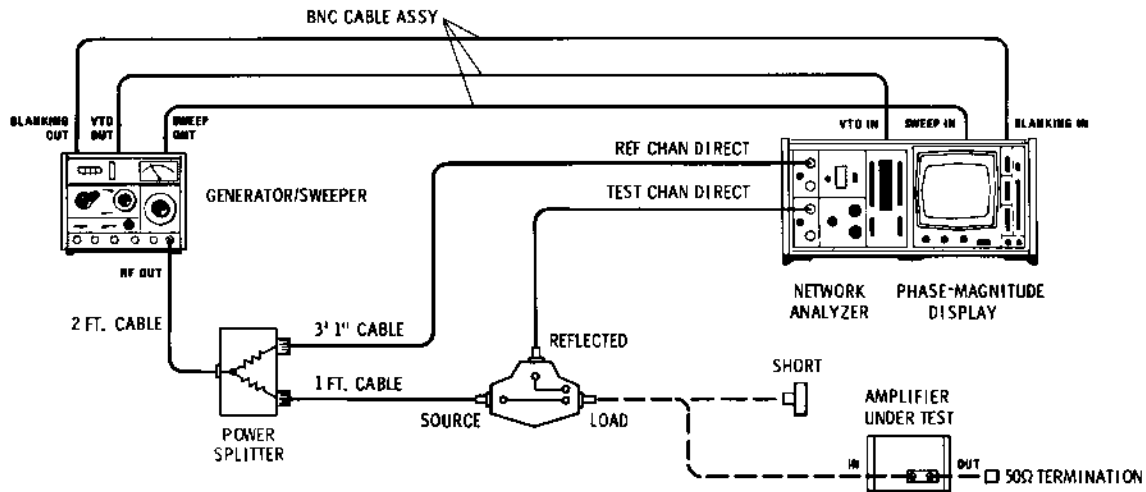

Figure 5 VSWR Test Setup: 1 to 110 MHz
- 1 Connect the equipment as shown in Figure 5. Set the generator/sweeper for a -10 dBm signal, sweeping from 1 to 110 MHz.